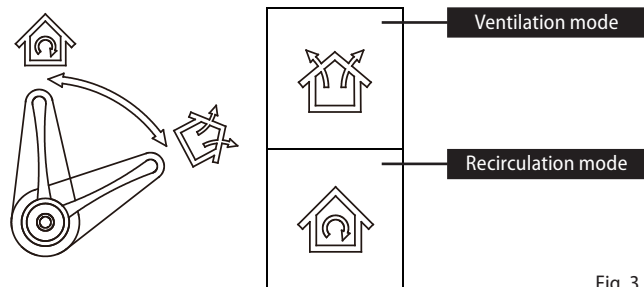

Fig. 3
4. In the engine compartment, lift the lever slightly and turn the lever to recirculation mode (see Fig. 3).